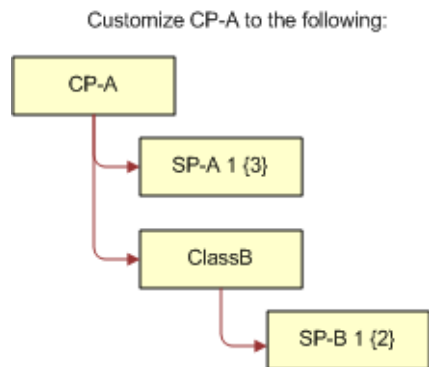

Figure 13. Customized CP-A
- 2 CP-A is then customized as shown in Figure 13.
Figure 13 shows the customized CP-A with the following structure: CP-A has a simple product relationship called SP-A defined and a Product Class called ClassB. Another simple product relationship called SP-B is defined and associated with ClassB. SP-A has a default quantity of 1 and the attribute value 3. SP-B has a default quantity of 1 and the attribute value 2.